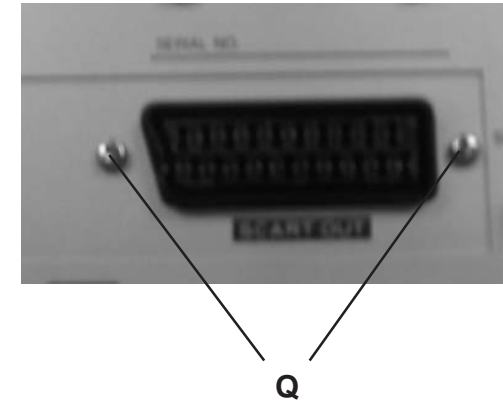

Figure 14
- 1) Loosen 2 screws "Q" as shown in Figure 14.